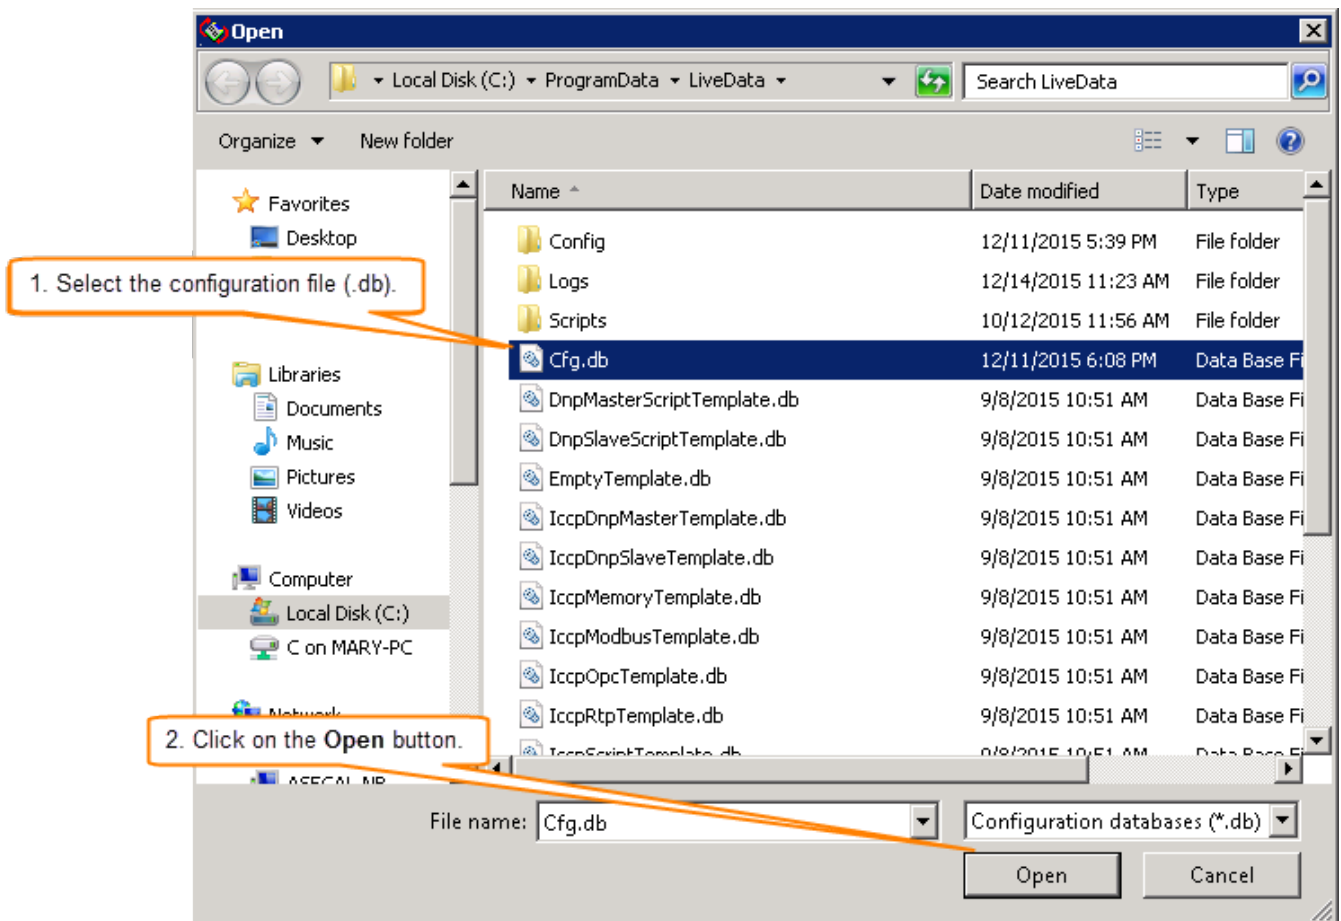

Figure 5: Select and Open the Configuration File
Clicking on **Import configuration** brings up a Windows Explorer Window as shown in Figure 5.
2. Browse to the configuration that you would like to select, then click on the Open button as shown in Figure 5.